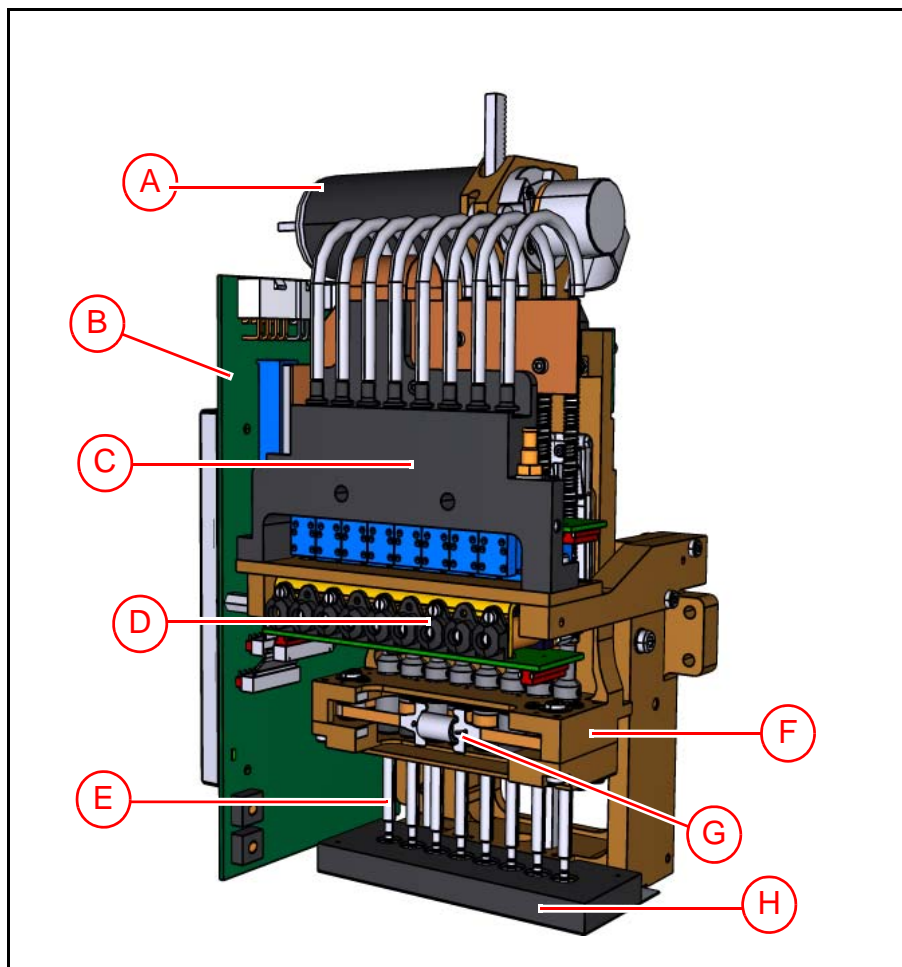

Figure 6-10. HYDRA unit.
- HZ motor ('A' in Figure 6-10).